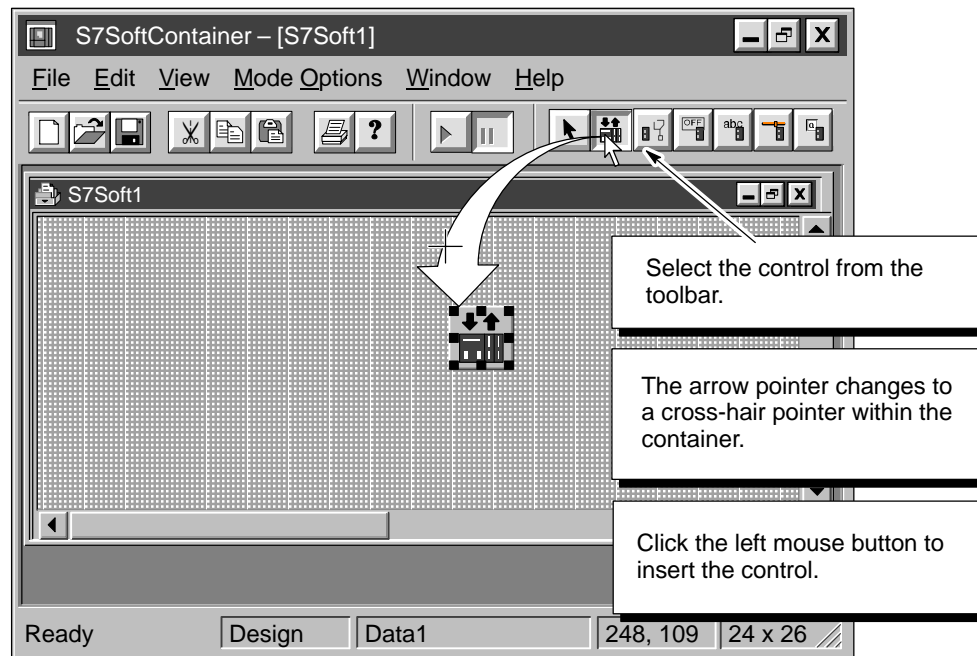

Figure 8-3 Inserting a Control from the Toolbar
Refer to Figure 8-3 and use the following procedure to insert a SIMATIC control into your process form:
1. In the toolbar, select the control to be inserted by clicking on the icon for the control. (Figure 8-3 shows a Data control being inserted into the process form.)